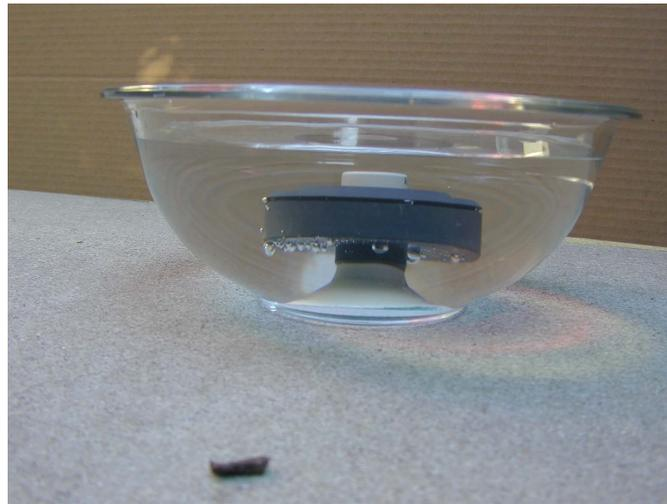

Figure 10: Cup Immersion
- Step 4** Remove the rubber stopper from the top cup assembly. Pour distilled water to completely fill the cup. Next, place the filled cup into a suitable container and completely immerse the top cup assembly in distilled water. Allow the cup to soak for at least 30 minutes. Refer to Figure 10: Cup Immersion.